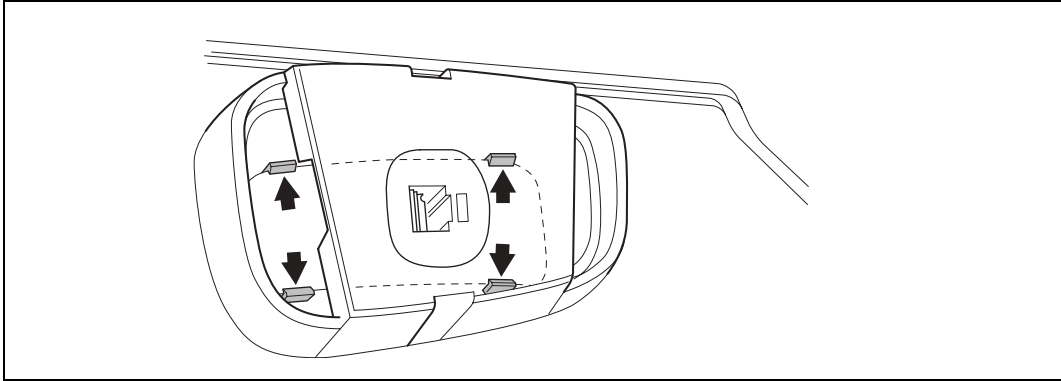

Figure 7.3 Dismantling buttons lift/lower
2. Dismantle the buttons by releasing the snap on attachments from the inside, see Figure 7.3.